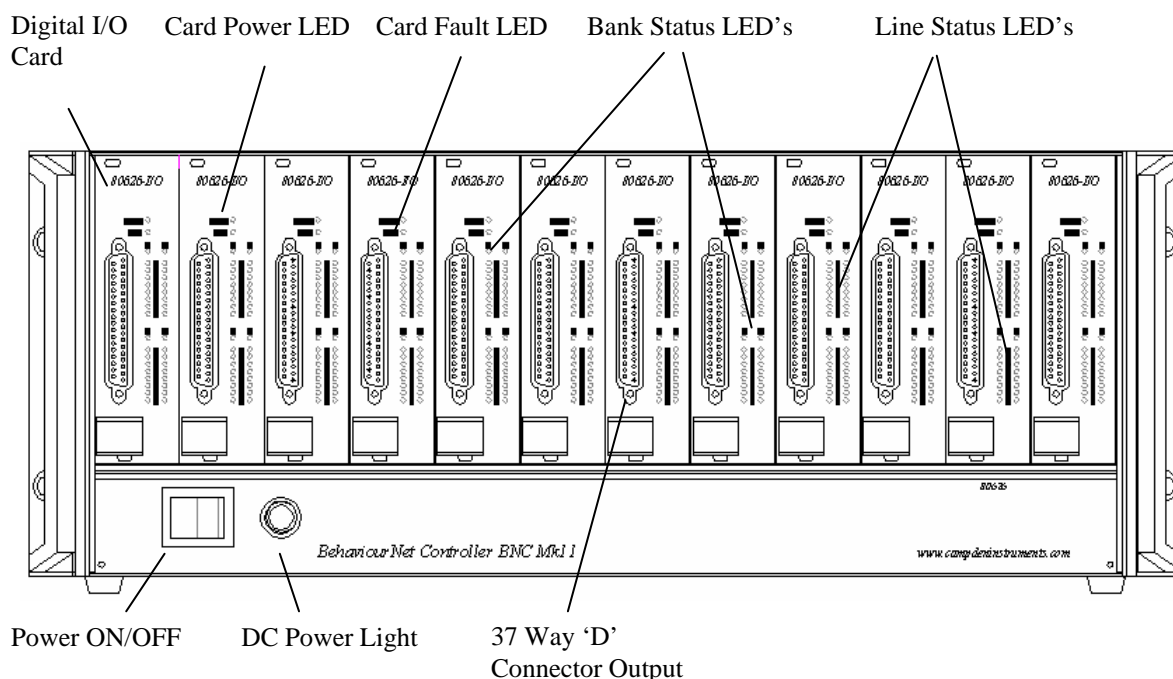

Figure 3. BNC2 Controller front panel
9. Switch on the interface rack on the front panel. See figure 3 for the layout of the controller front panel. The LED to the right of the interface rack should light to indicate the internal power supply is operational.